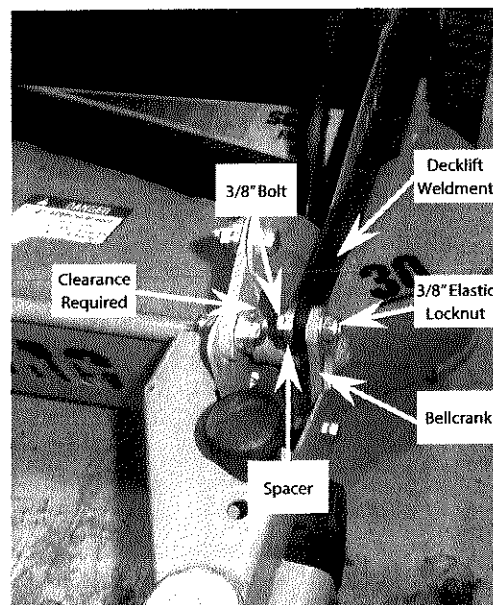

Figure 12
15. With caution slowly rotate the deck lift bellcrank on the swivel caster weldment to allow enough clearance to install the spacer and bolt on the declift weldment and bellcrank. See Figure 12. Once you have the required clearance, align the hole on the declift weldment hole with the hole on the bellcrank bracket. Note the orientation of the deck lift weldment. Install the spacer through the deck lift weldment and then through the bellcrank. After the spacer is installed, insert the 3/8" bolt through the spacer and install a 3/8" elastic lock nut. See Figure 12. Do not tighten the hardware at this time.